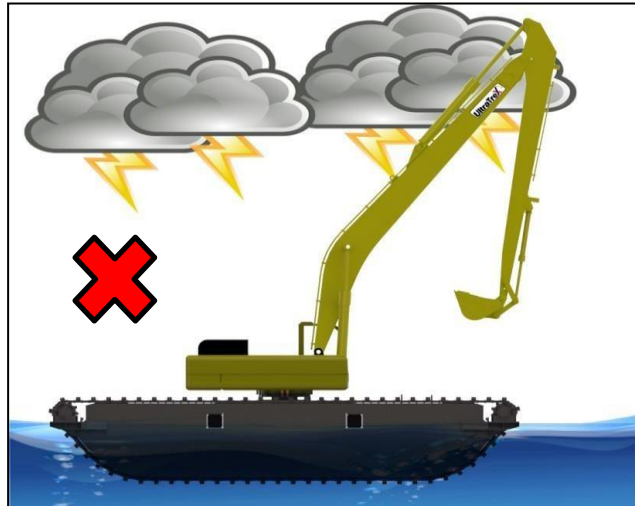

Fig 3-1: Avoid Traveling in Bad Weather
4. Do not travel in bad weather conditions. Refer to Figure 3.1.